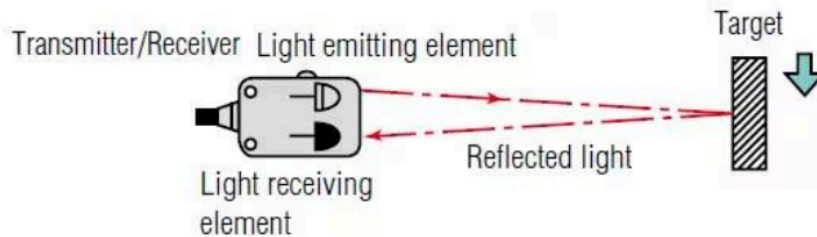

Figure 1: Reflective sensor example [4]
- Reflective – [3] this can be done by making a reflective mark on the cam belt that then is counted every time a rotation is completed, seen in Figure 1. This has a positive that it would require low level of intrusion and no physical alteration on the cam belt.